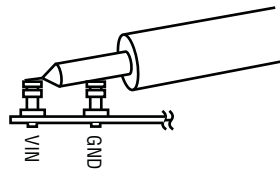

Figure 2. Measuring Input or Output Ripple
**NOTE:** When measuring the input or output voltage ripple, care must be taken to avoid a long ground lead on the oscilloscope probe. Measure the input or output voltage ripple by touching the probe tip directly across the  $V_{IN}$  or  $V_{OUT}$  and GND terminals. See the proper scope probe technique in Figure 2.
5. Set the load current of both outputs to 3A and the input voltage to 12V, then measure each output ripple voltage (refer to Figure 2 for proper measurement technique); they should each measure less than 20mVAC. Also, observe the voltage waveform at either switch node (pins 16 and 17 for channel 1, and 23 and 24 for channel 2) of each regulator. (Both switch node waveforms should be rectangular in shape and 180° out-of-phase with each other). The switching frequencies should be between 800kHz and 1.2MHz ( $T = 1.25\mu$ s and 0.833 $\mu$ s).